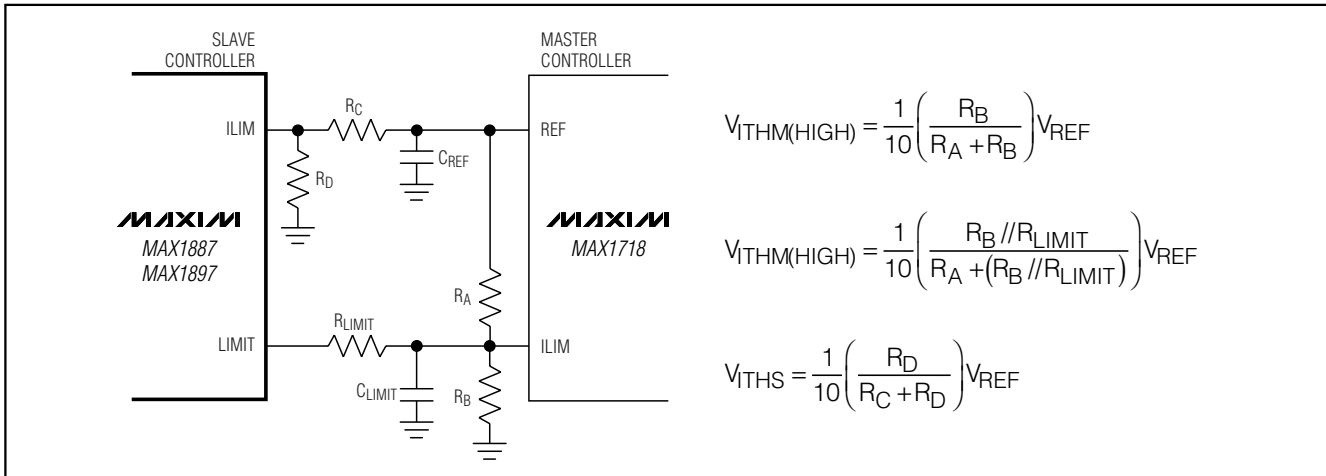

Figure 5. Setting the Adjustable Current Limits
where V_{ITHM} , the master's current-limit threshold, is typically 1/10th the voltage seen at the master's ILIM input ($V_{ITHM} = 0.1 \times V_{LIM(MASTER)}$, see the master controller's data sheet). Connect a resistive voltage-divider from the master controller's internal reference to GND, with the master's ILIM input connected to the center tap (Figure 5). Use 1% tolerance resistors in the divider with 10µA to 20µA DC bias current to prevent significant errors due to the ILIM pin's input current:
where V_{ITHS} , the slave's current-limit threshold, is precisely one-tenth the voltage seen at the slave's ILIM input ($V_{ITHS} = 0.1 \times V_{LIM(SLAVE)}$). Connect a second resistive voltage-divider from the master controller's internal reference to GND, with the slave's ILIM input connected to the center tap (Figure 5). The external adjustment range of 400mV to 1.5V corresponds to a
Now select the resistive-divider values (R_A and R_B in Figure 5) to set the appropriate voltage at the master's ILIM input:
Select the resistive-divider values (R_C and R_D in Figure 5) to set the appropriate voltage at the slave's ILIM input:
4) Determine R_{LIMIT} (Figure 5) from the above equation: